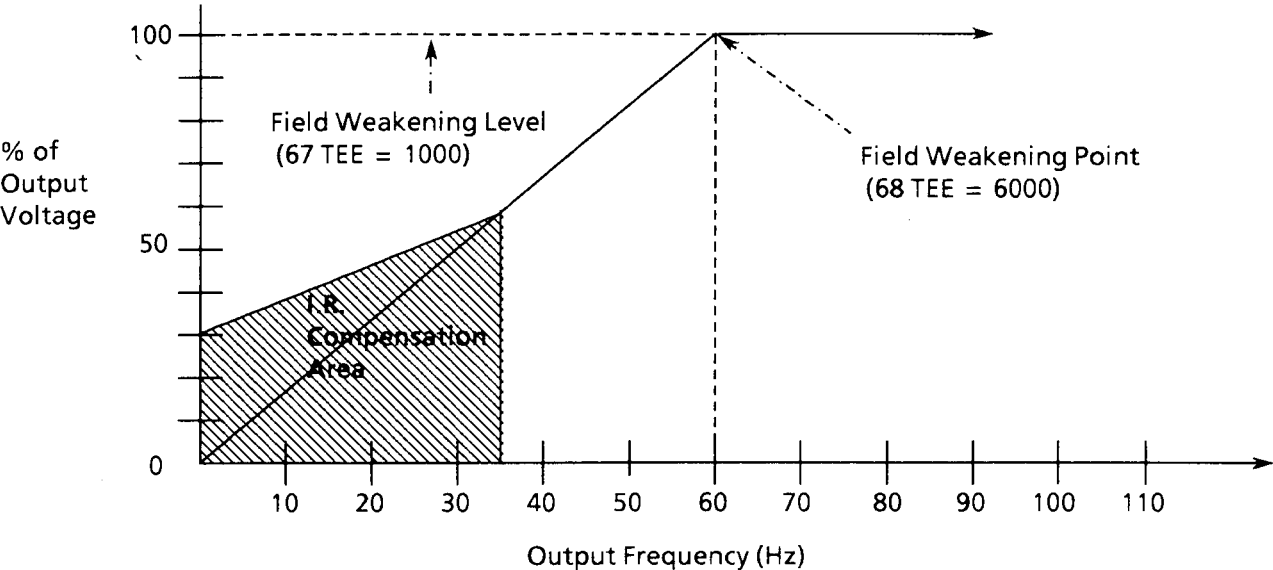

Figure 4-11. Typical Output Level in the Field Weakening Range.
- Figure 4-11 shows a typical output voltage level as the drive is operated in the field weakening range.